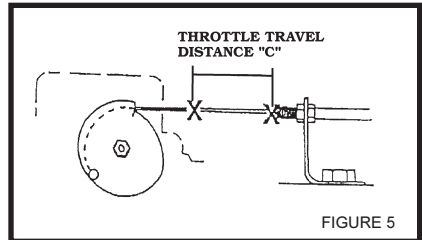

FIGURE 5
- Measure the Distance "C" between the two marks. **Figure 5** If the distance is greater than **41mm (1-5/8")**, go to **Page 10**; If it is less, go to **Step d**.